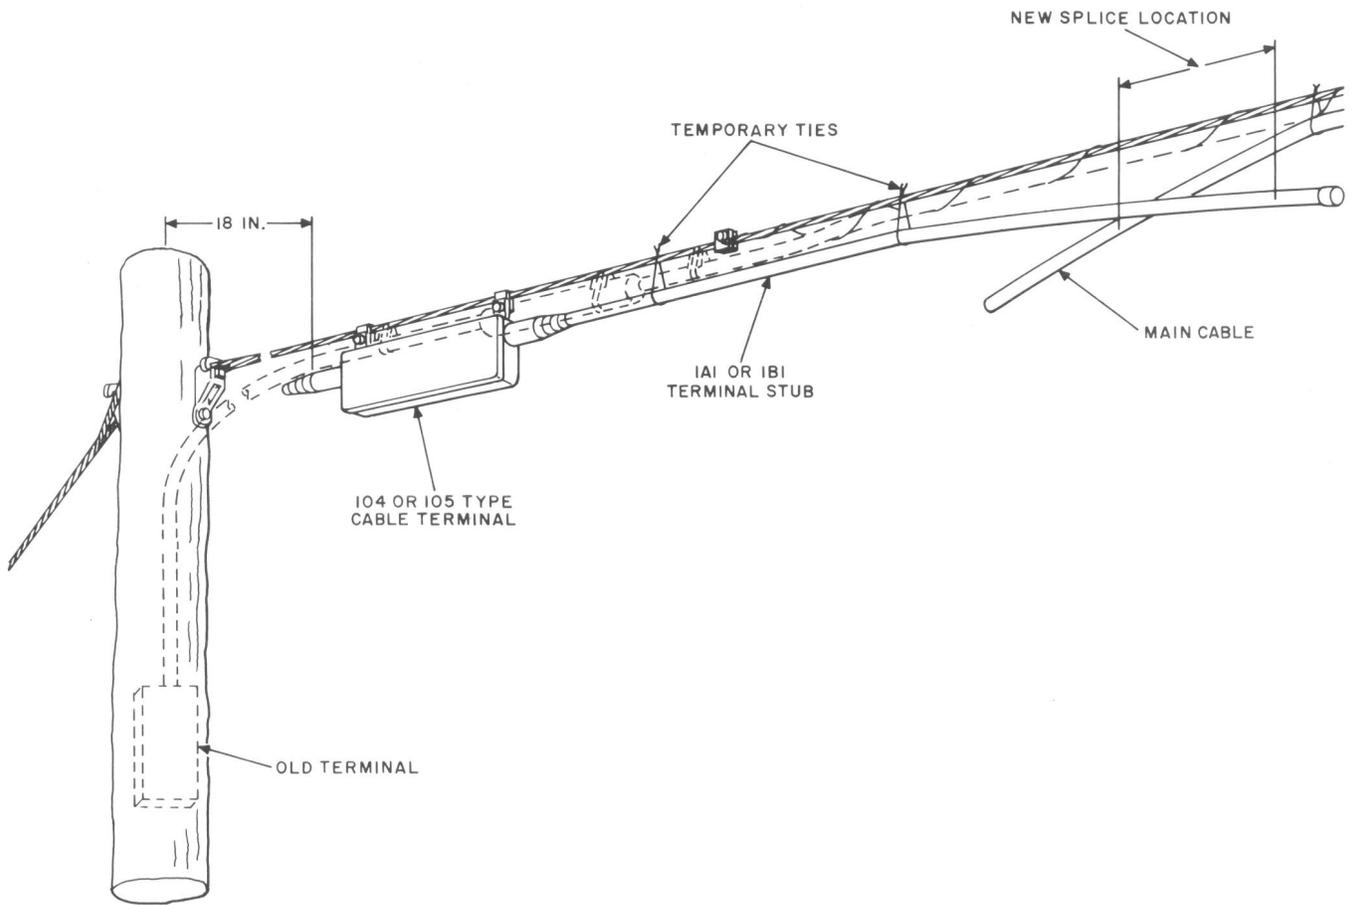

Fig. 19—Placing Terminal and Stub at Dead End Pole
4.02 Locate the stub and terminal assembly as shown in Fig. 19. Maintain a distance of 18 inches between the body of the terminal and the center bolt of the cable suspension clamp.